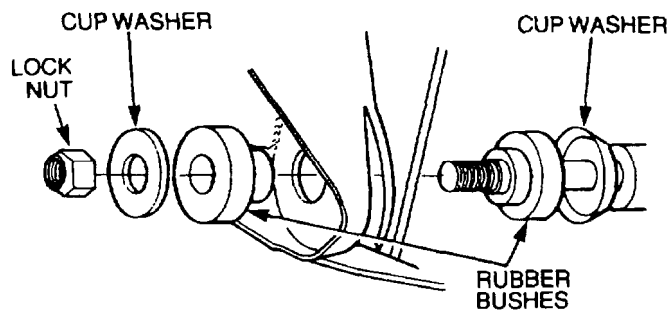

Figure 128 Radius Arm Bush Removal
- f. Remove the locknut, washers and rubber bushes from the chassis end of the arm (Figure 128). Discard the locknut.